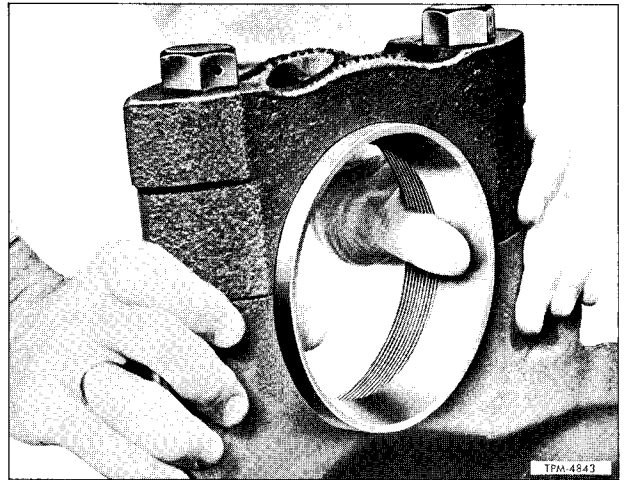

Figure 13—Checking Fit Of Differential Bearing Cup
1. Temporarily install bearing cup (44), adjusting ring (8), and bearing cap (45), then tighten stud nuts to recommended torque.
2. Bearing cup must be a hand pushfit (fig. 13) in bore, otherwise the bore must be reworked with a scraper or emery cloth until proper fit is obtained. Location of high spots in carrier bore can be readily located by applying a light coating of prussian blue to bearing cup.
4. Coat differential side bearing cones (43) and cups (44) with rear axle lubricant specified in LUBRICATION (SEC. 13).
5. Place bearing cups (44) over bearing cones (43), then position differential assembly in differential carrier.
6. Insert bearing adjusting rings (8) and turn hand tight against bearing cups (44).